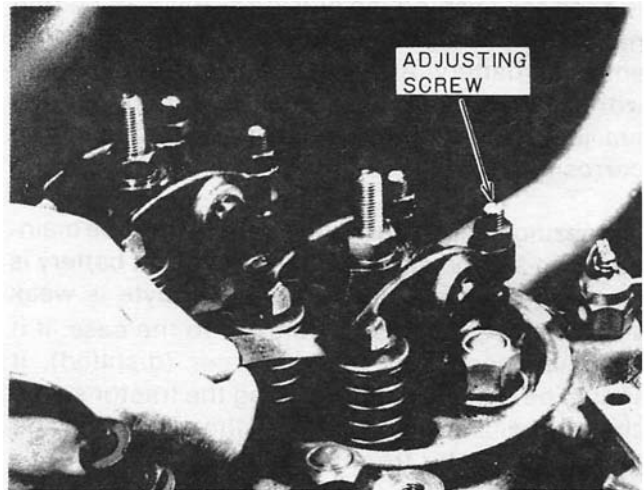

Figure 40 – Checking Valve Clearance
2. With the engine idling, check the clearance of each valve with a step-type feeler gauge, Figure 40.